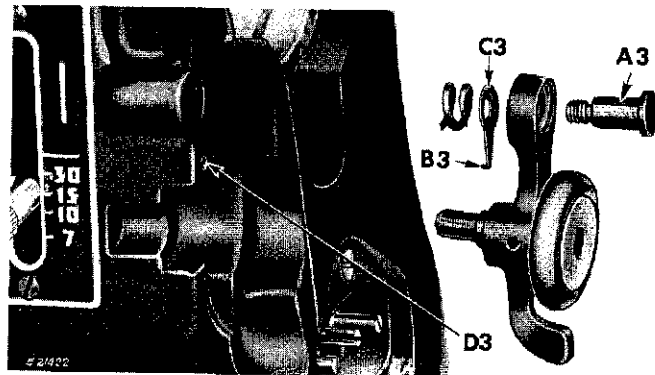

Fig. 21. Bobbin Winder Assembly
2. Turn screw A3, Fig. 21 counterclockwise until bobbin winder assembly comes off the machine
1. Fit parts together in the order indicated in Fig. 21